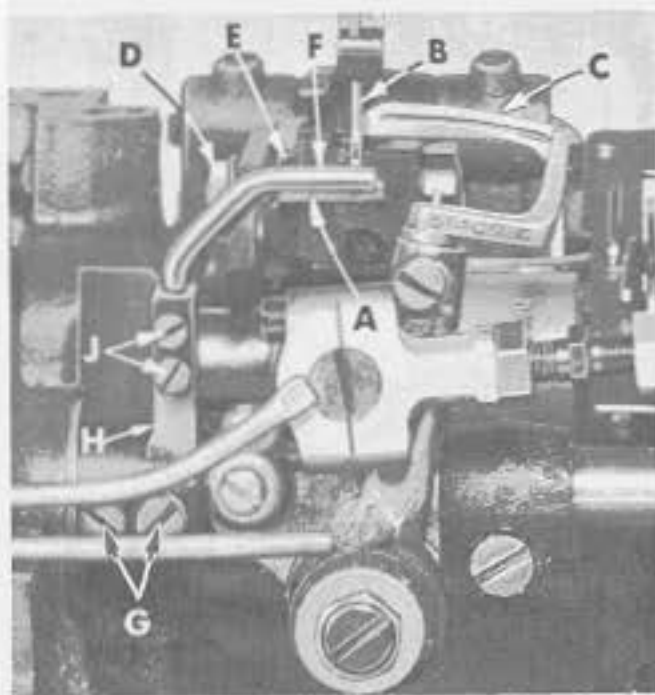

Fig. 11
Set the rear needle guard (A, Fig. 11) horizontally so that it does not quite contact the rear of the needle (B) when at its most forward point of travel. A clearance of .005 inch is permissible. It should be set as low as possible, yet have its vertical face approach within about $3/64$ inch of the needle, until the point of the looper (C), moving to the left, is even with the needle. To move needle guard forward or backward, merely loosen screw (D), move needle guard as required and retighten screw (D). To raise or lower the needle guard, loosen screw (D) and turn screw (E) clockwise to lower or counterclockwise to raise. Retighten screw (D) after guard is properly set.
Set the front needle guard (F, Fig. 11) so that it barely contacts the needle (B) until the point of the looper (C), moving to the left, is just past the left side of the needle. The looper may brush, but not pick at the needle. The front needle guard should be set as low as possible to meet this condition yet not contact the rear needle guard or looper at any time. To move needle guard forward or rearward, loosen screws (G), rotate needle guard holder (H) as required and retighten screws (G). To raise, lower or rotate needle guard, loosen screws (J), reposition as necessary and retighten screws after guard is properly set.